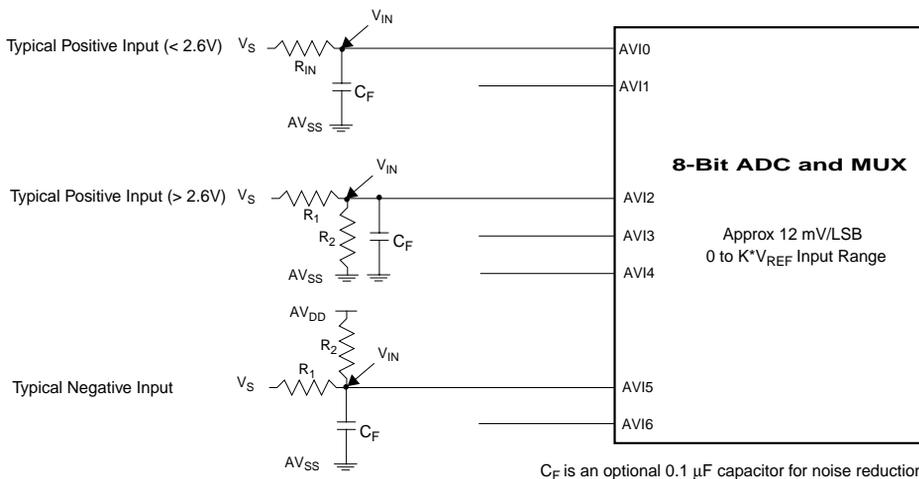

Figure 2. Analog Input Examples
Figure 2 shows analog input examples of the VLM. Voltages in the range of 0V to 2.5V can be directly connected to the inputs. The 3.3V, 5V and 12V inputs should be attenuated with external resistors to any desired value within the input range. In a typical application, the input voltage divider can be selected to provide 2.6V at the analog inputs of the VLM. This is sufficiently high for good voltage resolution, while providing a margin of about 15% on the upper end for voltage fluctuations that can be tracked by the VLM. To simplify the process of resistor selection, set the value of R2 first. Select a value for R2 between 10 K Ω and 100 K Ω . This is low enough to avoid errors due to leakage currents. Then select R1 so that the value of V_{IN} is less than 2.6V. The following equation demonstrates the relationship between these variables:
- Connect the supply and ground of the input attenuator (see Figure 2) to the AV_{SS} or AV_{DD} pin for the highest accuracy.